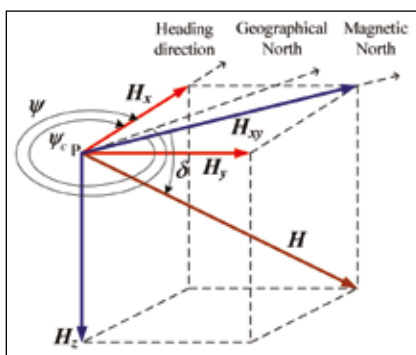
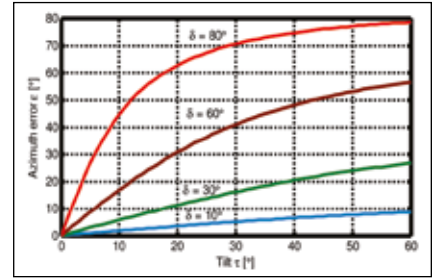

Fig. 1 Earth's magnetic field and magnetic azimuth
Fig. 2 Influence of tilt and inclination on azimuth
To determine the magnetic heading, the components of Earth's magnetic field have to be measured in two orthogonal, parallel to the Earth's surface, directions. The three dimensional Earth's magnetic field vector and its relationship with the magnetic azimuth is shown in Fig. 1 [1, 2].
The Earth's magnetic field vector consists of the vertical component H_z and the horizontal component H_{xy} . The direction of the H_{xy} vector is parallel to the magnetic North-South direction. Next, the horizontal component vector H_{xy} can be shown as a sum of two vector components: H_x , which is parallel to the movement direction and H_y , which is perpendicular to the movement direction. It has been assumed that the positive values of these components correspond with the forward sense of the H_x vector and the right sense of H_y vector. As can be seen in the Fig. 1, the magnetic azimuth can be calculated as follows [1, 2]:
When the compass module is tilted, the measured components do not equal horizontal components of the Earth's magnetic field [5, 6]. Because of that, the angle determined with the use of the equation (1) is sensitive to the tilt of the compass. The influence of the tilt angle τ and the inclination angle δ (see Fig. 1) on the azimuth error are shown in Fig. 2.
As can be seen in Fig. 2, the azimuth error can achieve large values, up to 40° , even for relatively small tilt angles, such as 10° . The ε error tends to grow fast for increasing tilt angles and its maximum value depends on the inclination angle δ . Such high error values are not allowable.